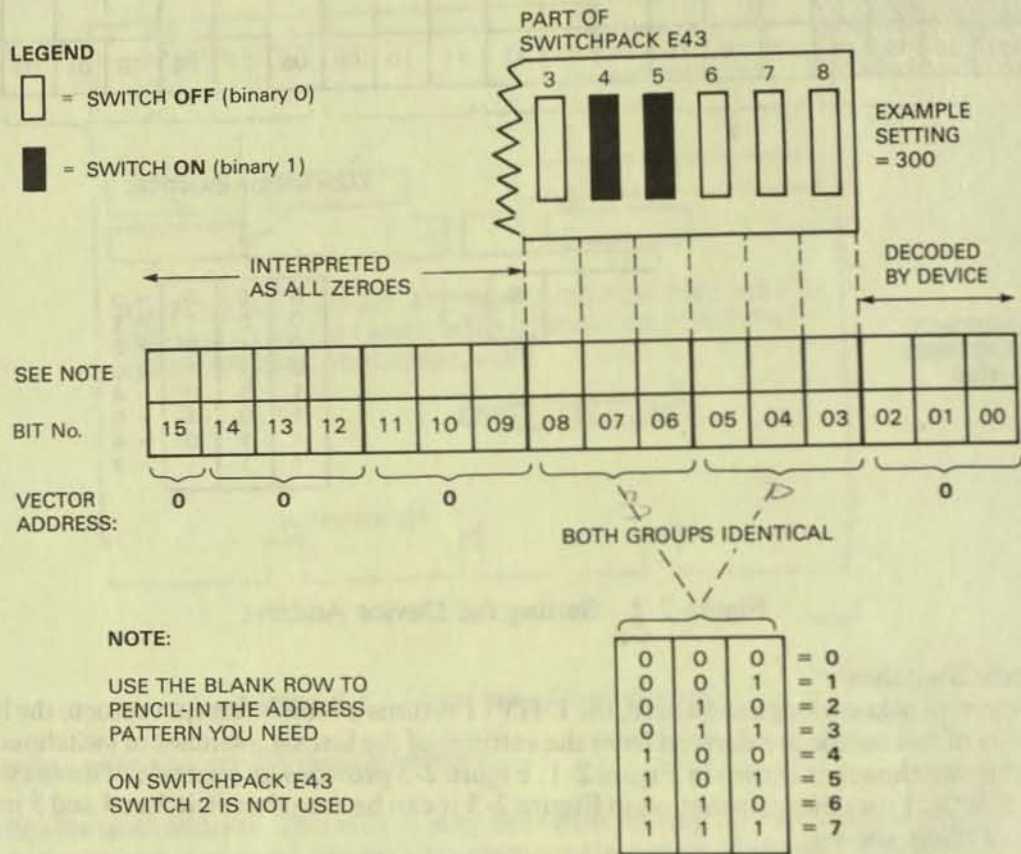

Figure 2-3 Setting the Vector Address
During an interrupt acknowledge sequence, the DHV11 returns a 7-bit interrupt vector to the host. The six high-order bits of this vector are derived from the settings of the last six switches of switchpack E43. The location of this switchpack is shown in Figure 2-1. Figure 2-3 provides an example of these switches set to an address of 300g. From the information in Figure 2-3 it can be seen that switches 4 and 5 must be set to ON for the example shown.
2. Convert the octal address to a binary bit pattern. You can write this pattern on Figure 2-3 in the blank line left for this purpose.